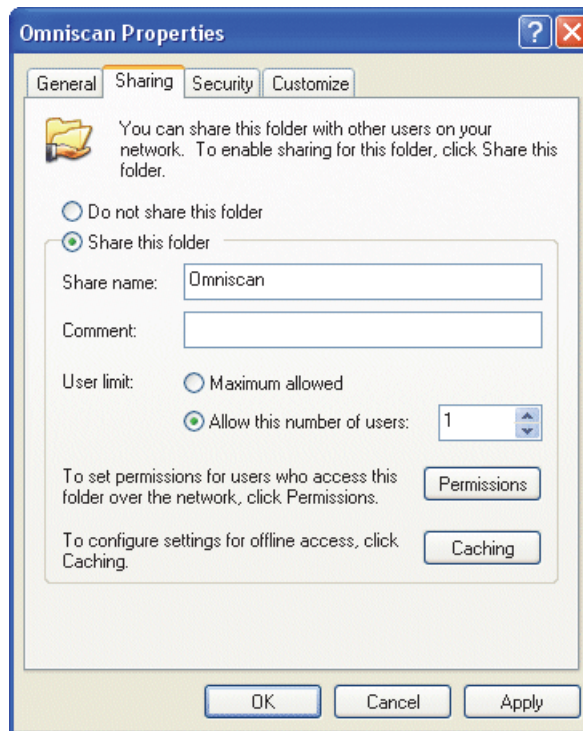

Figure 14-7 The Omniscan Properties dialog box (Windows XP)
3. In the **Omniscan Properties** dialog box, click the **Sharing** tab (see Figure 14-7 on page 301).